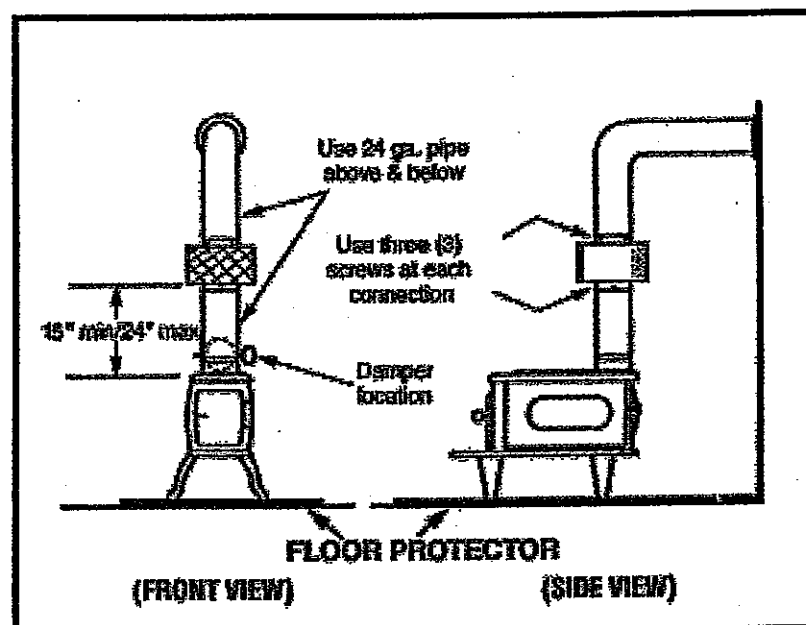

Figure 2
1. The installation of this unit must comply with your local building code rulings. Please observe the clearances to combustibles (see figure 2).
2. If you have determined your chimney to have an inadequate draft, overcome that deficiency before installing your Heat Reclaimer. Your chimney should be capable of developing at least 0.06 w.c. (measured in water column) draft before installing a Heat Reclaimer. After installation, the chimney should develop at least 0.045 w.c. as measured below the Heat Reclaimer. All stove pipe above or below your Heat Reclaimer must be 24-gauge or heavier to provide adequate support. Any horizontal run of pipe must pitch upward toward the chimney at least 1/4" per foot of horizontal run. All stove pipe and/or elbow joints must be secured by at least three (3) sheet-metal screws.
10. The Heat Reclaimer should be installed as close to the flue outlet as possible, but no closer than 15" from the top or back as shown in figure 2.
12. Use at least three (3) sheet metal screws at each connection to secure the Heat Reclaimer to the flue pipe.